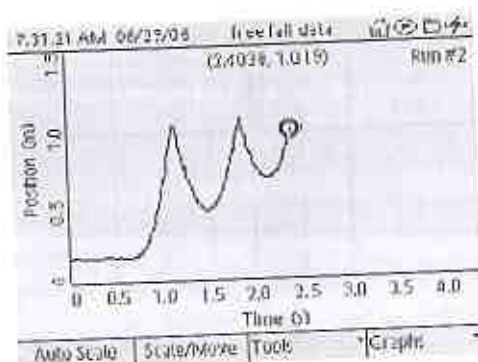

Figure 4: Attaching a washer to the drop object
5. Peel backing from Cellotape labels and attach washers to the large plastic ball and to the golf ball with Cellotape labels (See Figure 4).